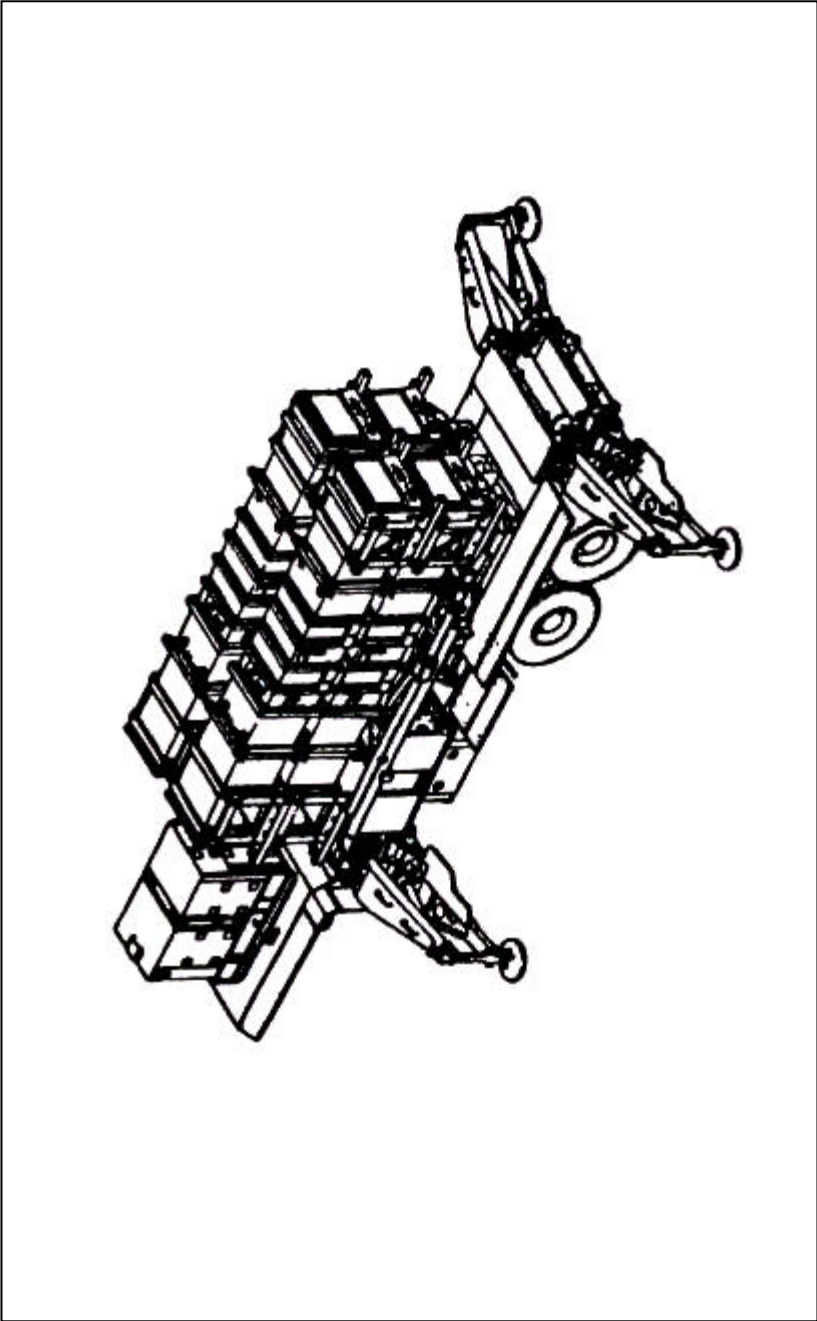

Figure 2-1. Missile reload position LS
**ILLUSTRATIONS:** Figures 2-1 through 2-7.
- (1) One LS GM semi-trailer mounted, 10,000-pound capacity full articulating forklift with all basic issue items, and a guided missile carrier (GMC) (for example, Guided Missile Transporter (GMT), flatbed trailer, or flatbed rail car).
- (2) Missile round cable test set (MRCTS).
- (3) Two 30 to 150 foot pound torque wrenches.
- (4) Two 30/36-inch extensions.
- (5) Two ¾ inch deep well sockets.
- (6) Hearing protection (one set for each crew member).
- (7) Work gloves (one pair for each crew member).
- (8) Protective head gear (combat helmet for each crew member).